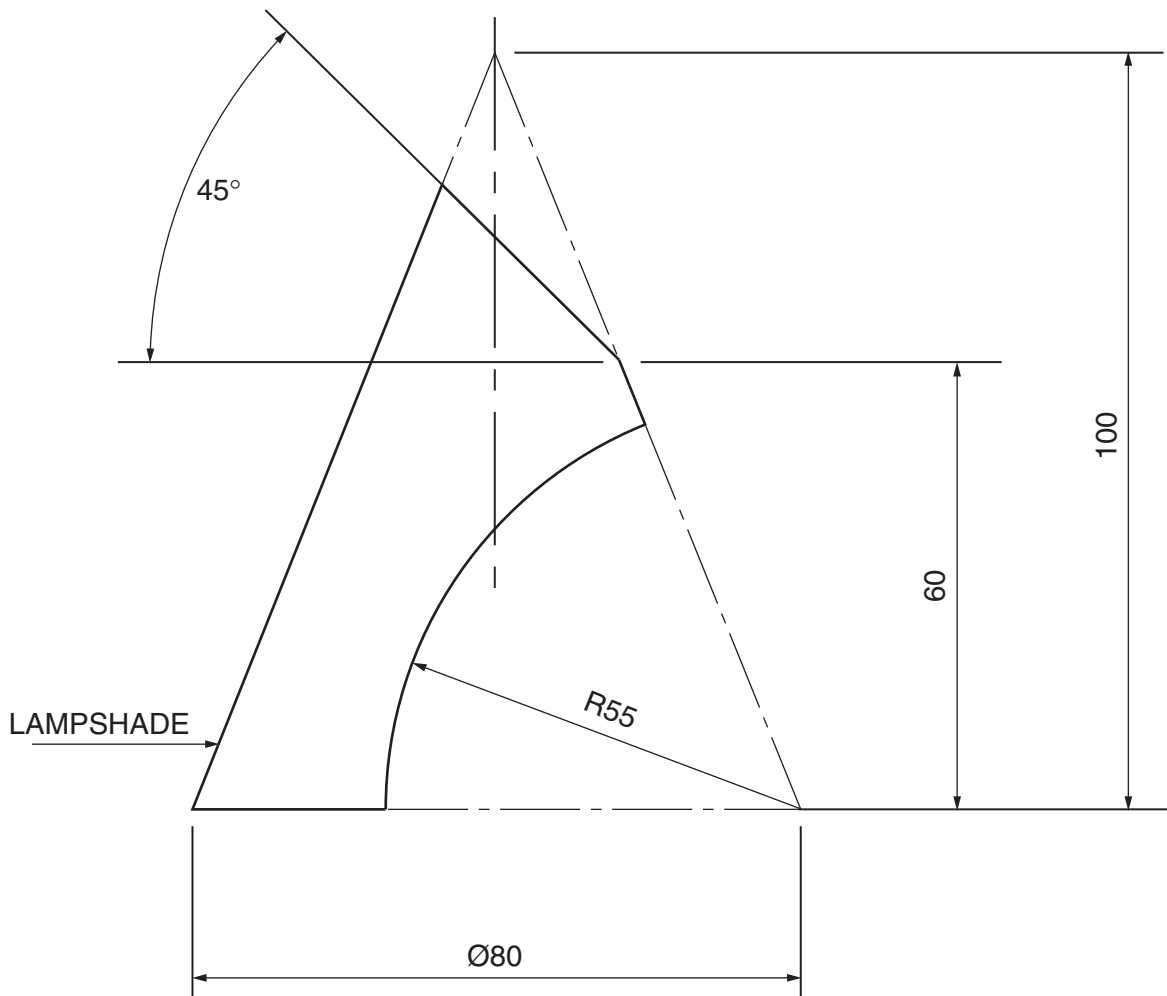

Fig. 4
- 4 A lampshade is to be made from thin sheet material, based on a right circular cone as shown in Fig. 4.